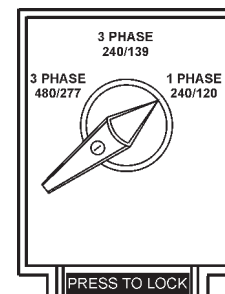

Figure 48. Voltage Selector Switch
5. Place the voltage selector switch in the desired voltage position (Figure 48).